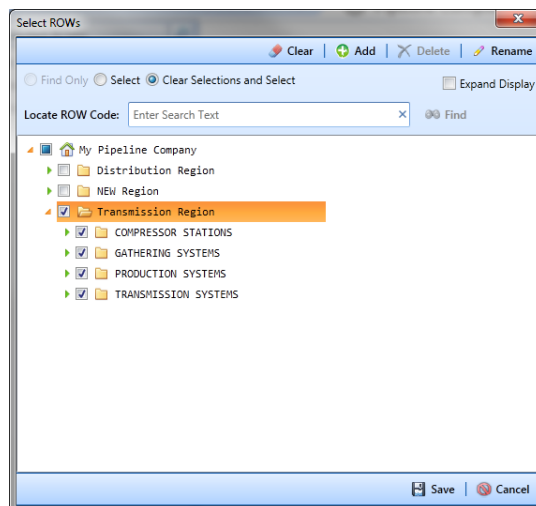

Figure 8-2. Select ROWs
- 1 Click the **Select ROWs** button  to open the *Select ROWs* window (Figure 8-2, page 352). Select one or more pipeline segments by clicking the check box for each pipeline segment. Click  **Save** to close the *Select ROWs* window.
- 1 Click the **Select ROWs** button  to open the *Select ROWs* window. Select one or more pipeline segments by clicking the check box for each pipeline segment (Figure 8-2, page 352). Click  **Save** to close the *Select ROWs* window.